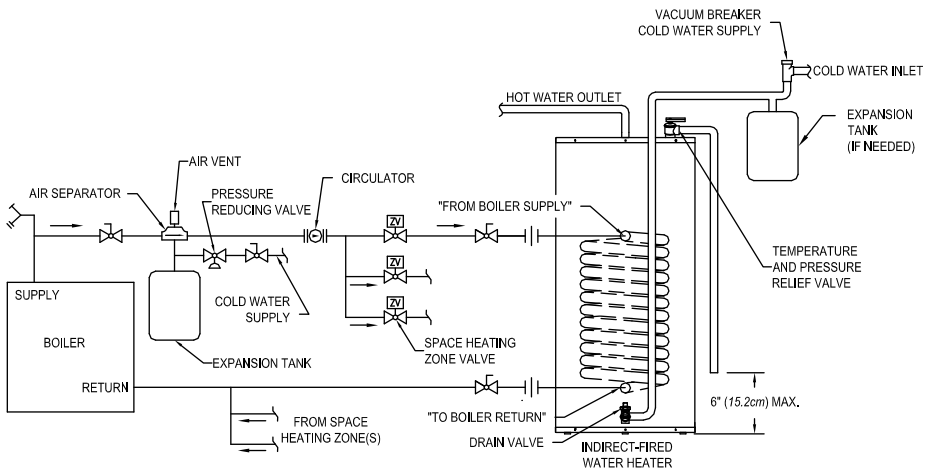

Figure 3 - Water Boiler Piping with Zone Valves
1. For a space heating system that utilizes ZONE VALVES, refer to Figure 3. The indirect-fired water heater connection labeled “FROM BOILER SUPPLY” should be piped to the boiler supply piping. Mount the circulator making sure the flow arrow points toward the water heater. The use of shut-off valves and unions are recommended for future service convenience. The use of an air separator and vent is recommended to eliminate air in the system. Pipe and fittings between the the boiler and indirect-fired water heater must be $\frac{3}{4}$ ” diameter or larger.